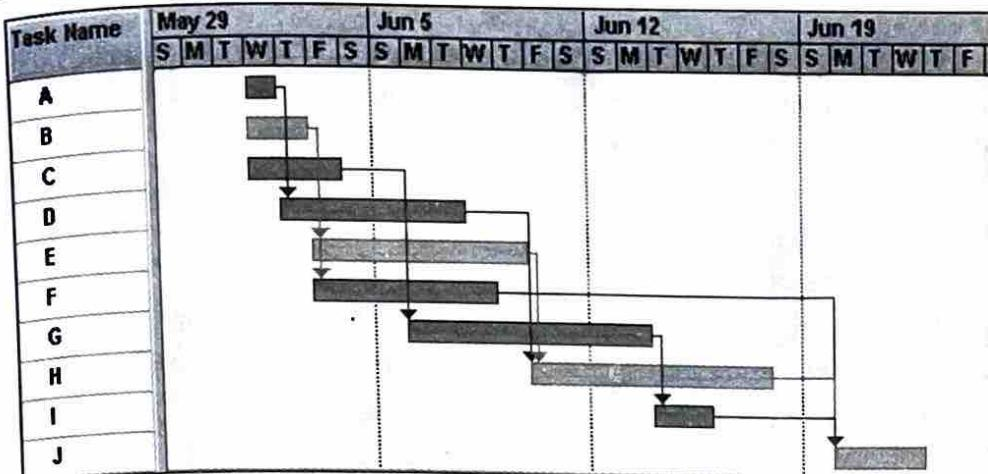
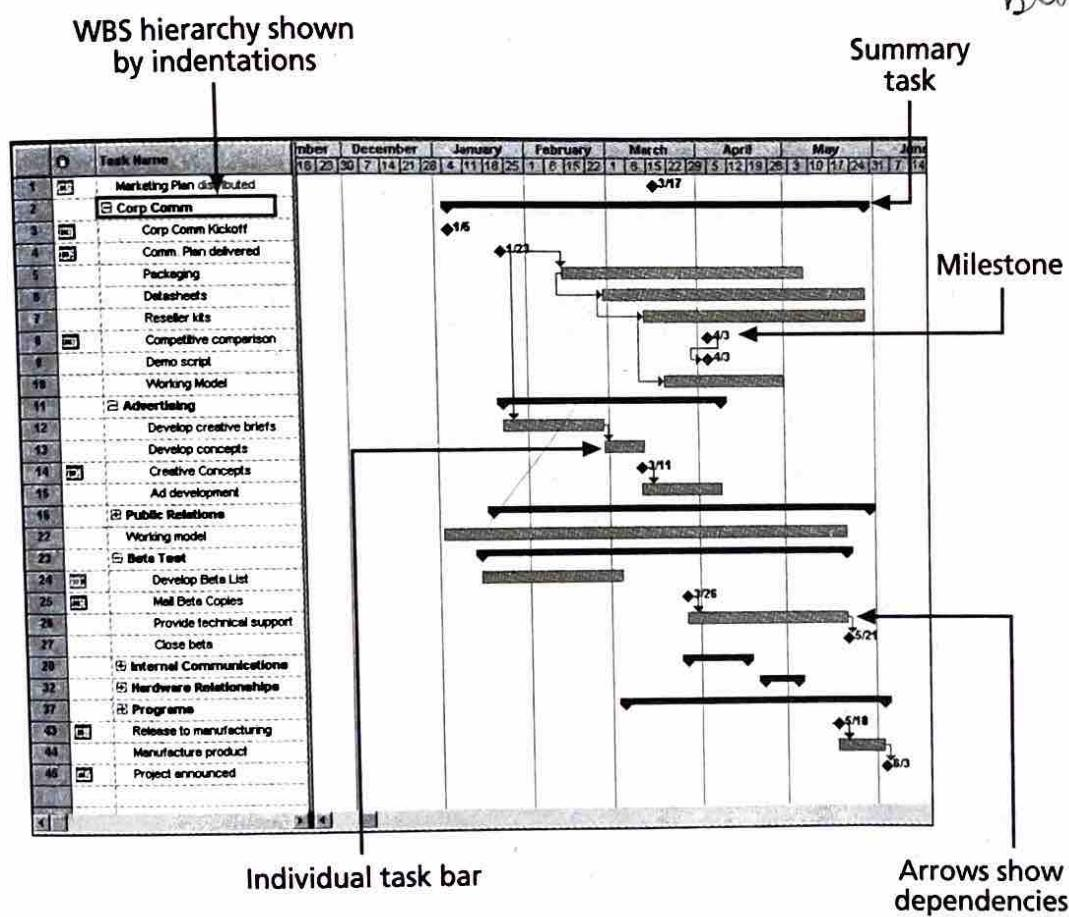

Figure 6-5. Gantt Chart for Project X
Figure 6-6. Gantt Chart for Software Launch Project
Gantt charts provide a standard format for displaying project schedule information by listing project activities and their corresponding start and finish dates in a calendar format. Gantt charts are sometimes referred to as bar charts since the activities' start and end dates are shown as horizontal bars. Figure 6-5 shows a simple Gantt chart for Project X created with Microsoft Project. Figure 6-6 shows a Gantt chart that is more sophisticated based on a software launch project. Recall that the activities on the Gantt chart should coincide with the activities on the WBS, which should coincide with the activity list and milestone list. Notice that the software launch project's Gantt chart contains milestones, summary tasks, individual task durations, and arrows showing task dependencies.
Notice the different symbols on the software launch project's Gantt chart (Figure 6-6):
- The black diamond symbol represents a milestone. In Figure 6-6, Task 1, "Marketing Plan distributed," is a milestone that occurs on March 17. Tasks 3, 4, 8, 9, 14, 25, 27, 43, and 45 are also milestones. For very large projects, top managers might want to see only milestones on a Gantt chart. Microsoft Project allows you to filter information displayed on a Gantt chart so you can easily show specific tasks, such as milestones.
- The light gray horizontal bars such as those found in Figure 6-6 for Tasks 5, 6, 7, 10, 12, 13, 15, 22, 24, 26, and 44, represent the duration of each individual task. For example, the light gray bar for Subtask 5, "Packaging," starts in mid-February and extends until early May.